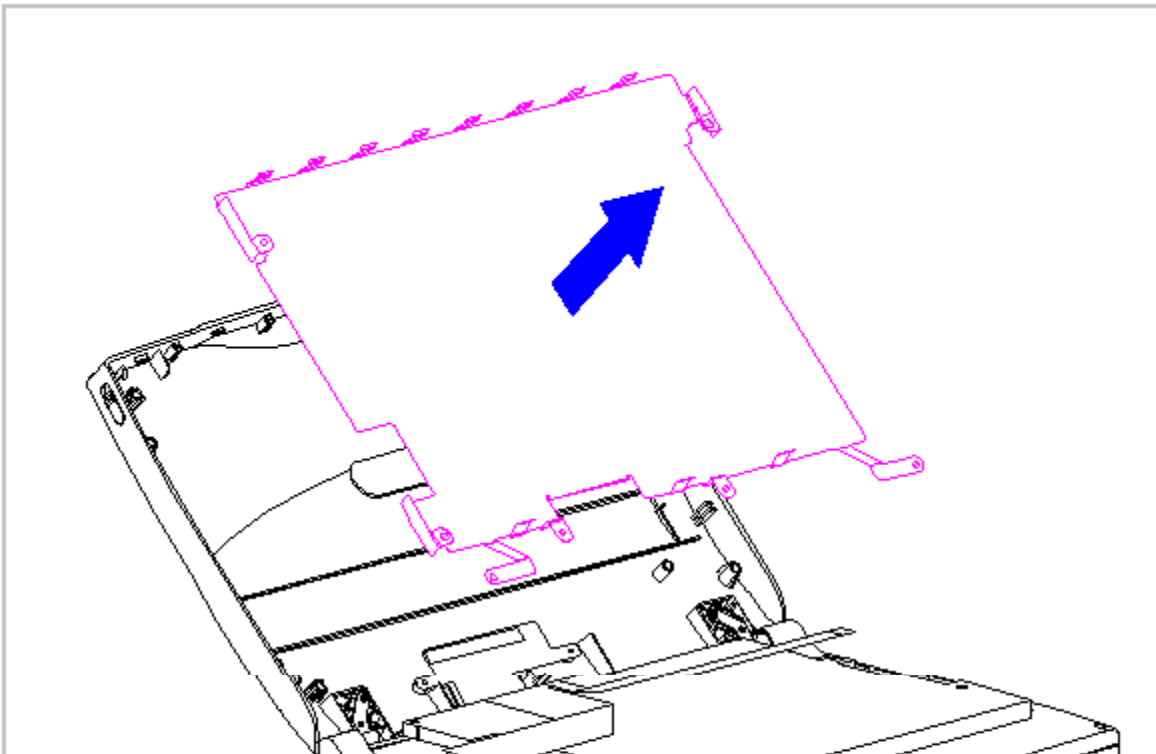

Figure 5-107. Removing the CTFT (10.4 in) Display Shield
8. Lift the display shield up and away from the display enclosure (Figure 5-107).